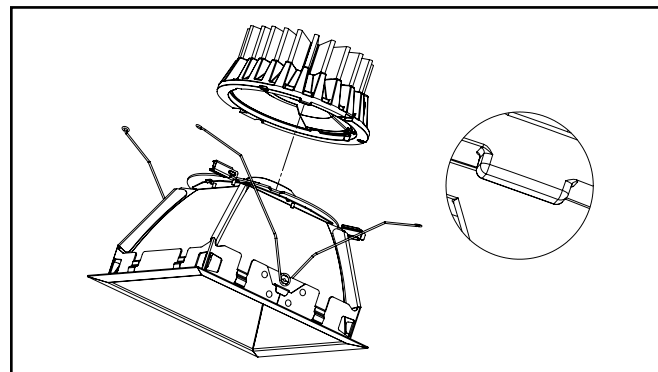

Figure 5
5. Insert LED engine on to trim assembly. Align post on LED engine with slot on trim assembly (Figure 5.)